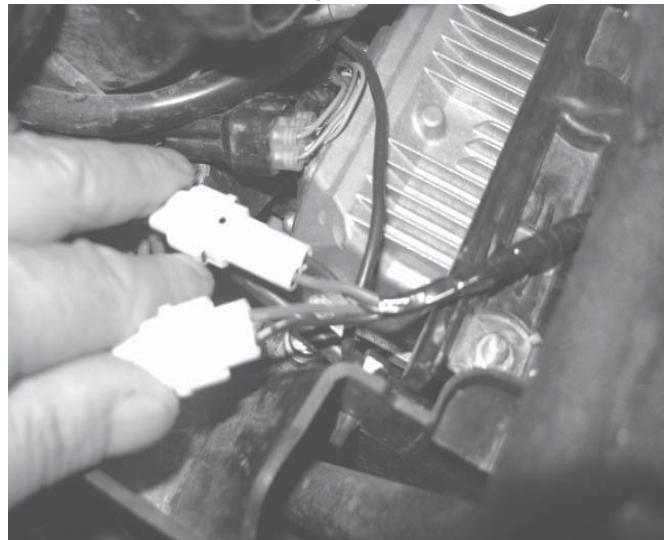

Figure 2
2. Install the power sub-harness (supplied with the ATV) as shown.(figure 2)